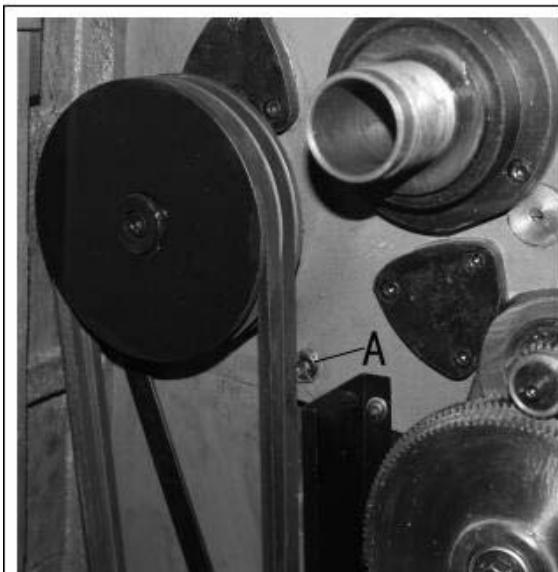

Figure 5
1. **Headstock** – Oil must be up to indicator mark in oil sight glass (A, Fig. 4). Top off with Mobil DTE® Oil Heavy Medium. Fill by pulling plug (D, Fig. 4). To drain, remove drain plug (A, Fig. 5) with an 8mm hex wrench. Drain oil completely and refill after the first month of operation. Clean out any metal shavings. Then, change oil in the headstock annually.